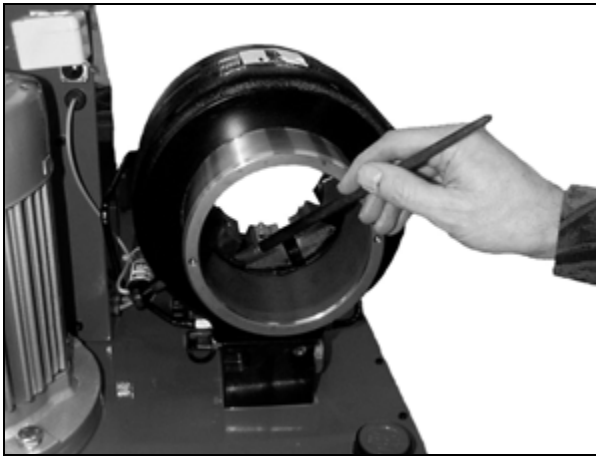

Fig. 1
- Apply the grease to **the conical surface at the back of the die** with a small brush (see fig. 1).